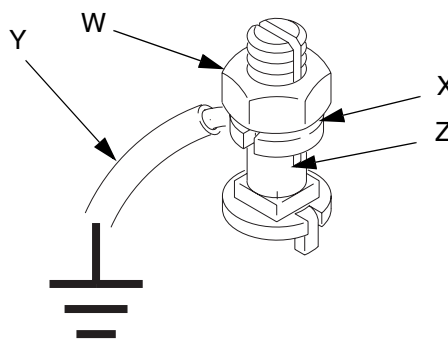

FIG. 5 Ground Screw
If you have the ground screw (Z) shown in FIG. 5, loosen the grounding lug locknut (W) and washer (X). Insert one end of the ground wire (Y) into the slot in lug (Z) and tighten the locknut securely. Connect the other end of the wire to a true earth ground. Order 237569 ground wire and clamp assembly.